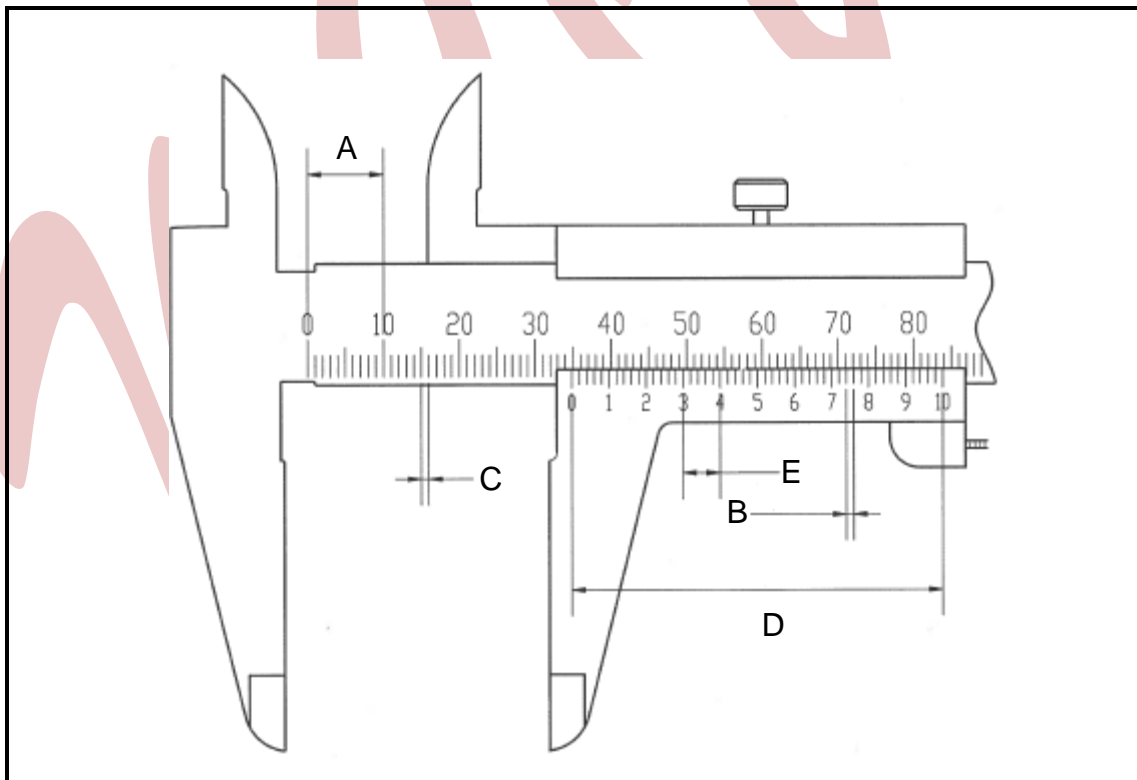

FIGURE 2
Identify the values of the measurements indicated in FIGURE 2 by writing only the answer next to the letter (A–E) in the ANSWER BOOK. (5 × 1) (5)